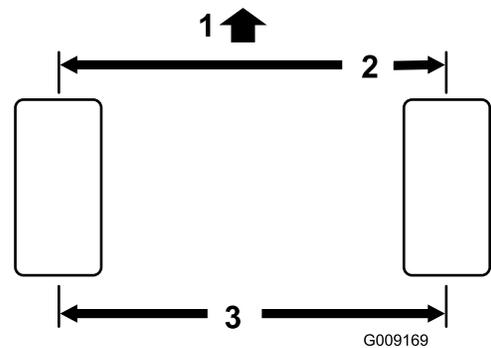

Figure 58
- Measure the center-to-center distance (at axle height) at the front and rear of the steering tires (Figure 58).